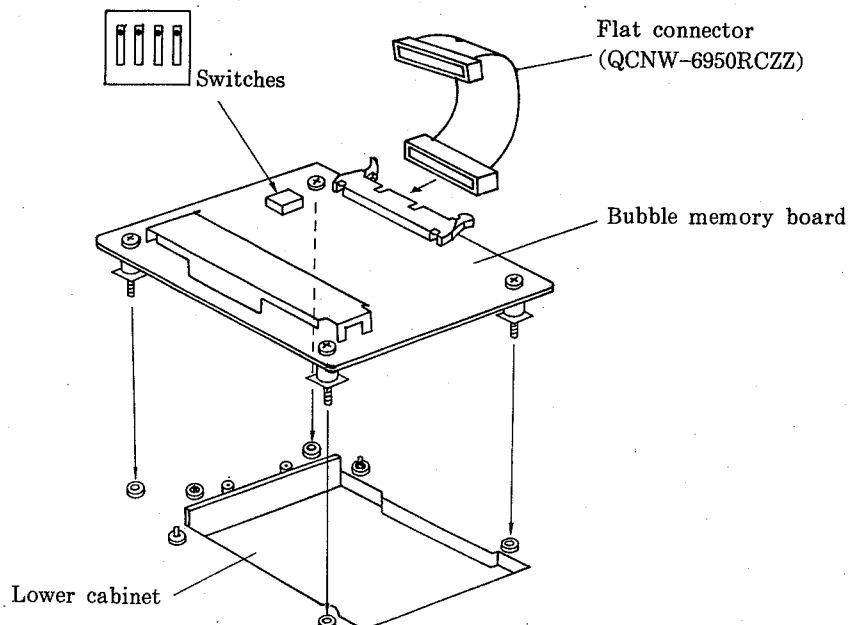

Fig.18
- (10) Connect the flat connector (QCNW-6950RCZZ) to the connector on the bubble memory board and fix the board to the lower cabinet with the fixing screws (4 pcs.). (See Fig.18.)
- (11) Check that the switches on the bubble memory board are set as shown in Fig.18.